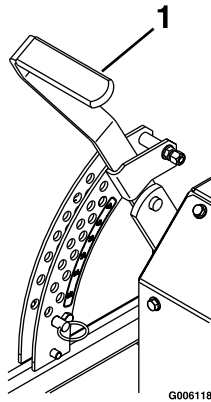

Figure 9
3. Raise the deck height lever to the transport position (also the 5 inch (12.7 cm) cutting height position)(Figure 9).